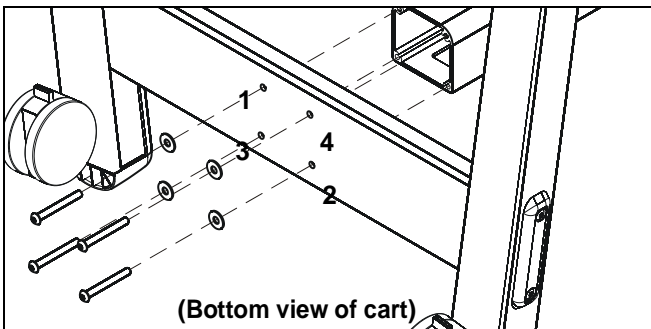

**Figure 1**
1. Assemble two legs (A) and (B) to the cart cross bracket (F) using two 5/16-18x4-1/4" button head cap screws (N) per leg. (See Figure 1)